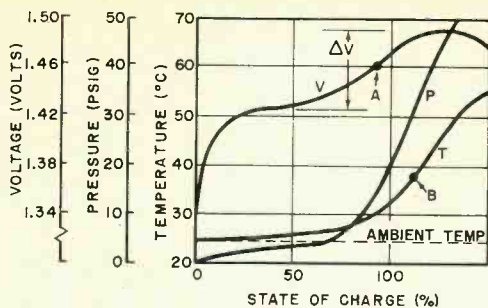

Fig. 1. Charger is set to cut off at point A.
**Fast-Charging Ni-Cd Batteries.** The cell conditions during charge that greatly affect cell life are excessive temperature that degrades the separator and excessive cell pressure that causes venting and the gradual loss of chemicals. In Fig. 1 are shown typical cell voltage, pressure, and temperature characteristics of a sealed cell charging at the 1C rate with the cell initially at room temperature.